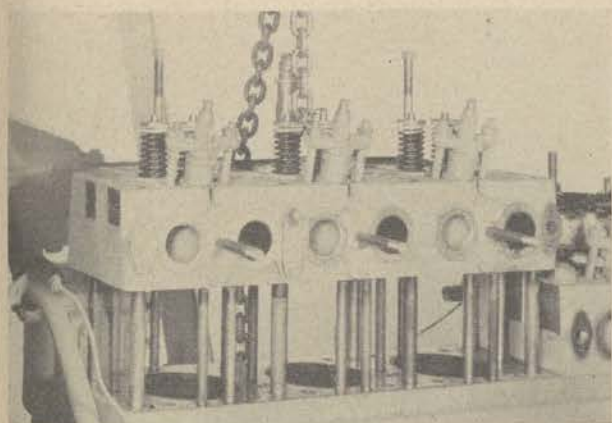

Figure 142. Removing cylinder head.
11. Remove the temperature indicator tube at the water regulator housing (7), and from the clamps on the cylinder heads.
12. Withdraw the bolts holding the two sections of the water manifold together at (1).
14. Remove the bolt which passes through the coupling (5) between the two compression release shafts. Slide the coupling onto either shaft far enough to clear the other.
15. Withdraw the capscrews which hold the water inlet elbow (3) to the top tank of the radiator.
16. Remove the valve rocker assemblies, as described in *c*(2) below, and the pushrods and cylinder head nuts. Lift off either one or both heads, as shown in figure 142.